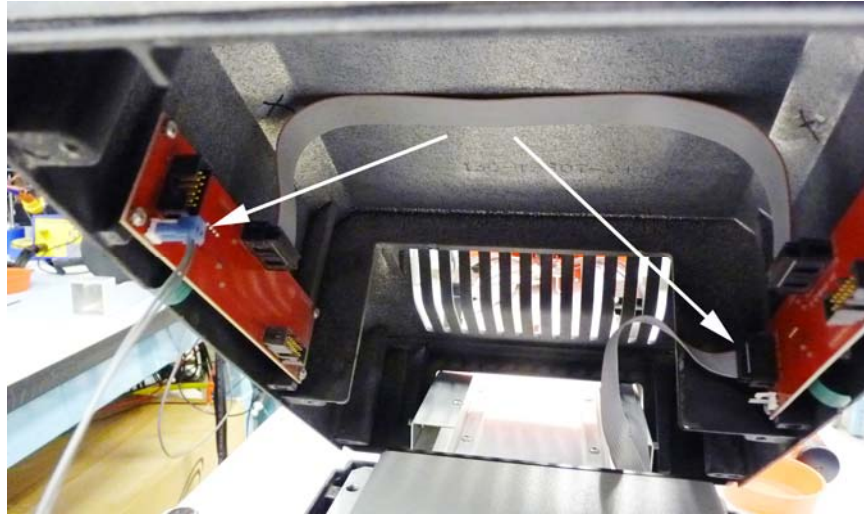

Figure 5 Upper clamshell cable connections
- 6 Carefully tilt the upper clamshell up from the front (Figure 5) and disconnect the two cables from the clamshell circuit boards. There is a two-wire connection at the front on one side and a ribbon cable connection at the rear on the other side. Set the upper clamshell aside.